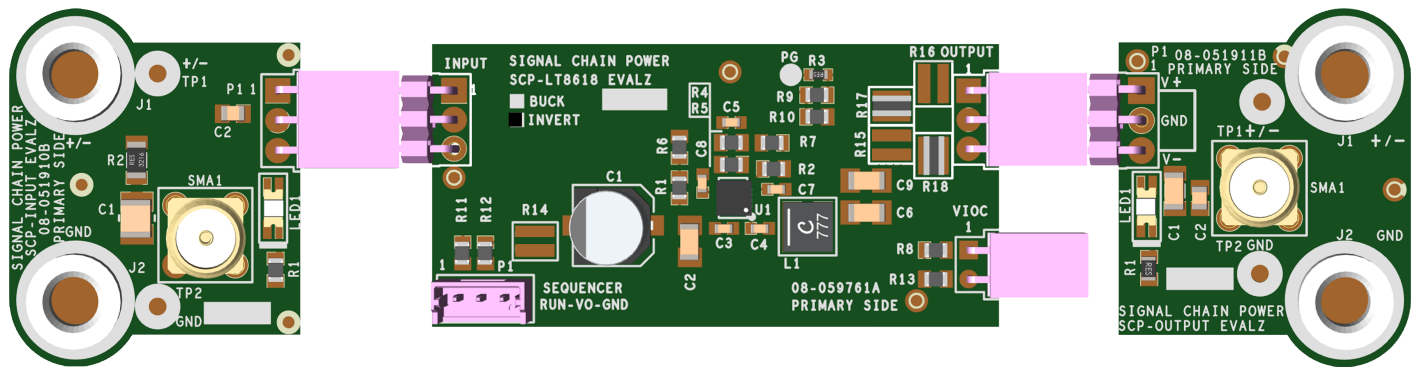

Figure 2. Proper Measurement Equipment Setup (Use SMA connectors for Measuring Input or Output Ripple)
2. Connect the SCP-INPUT-EVALZ and SCP-OUTPUT-EVALZ boards to the SCP-LT8618-IEVALZ (refer to Figure 2) and connect the input board to a voltage source, V_{SOURCE} . Connect the output board to a voltmeter or dynamic load. Slowly raise the input voltage until the SCP-LT8618-IEVALZ powers up into regulation and sweep V_{SOURCE} through the desired range of operation.